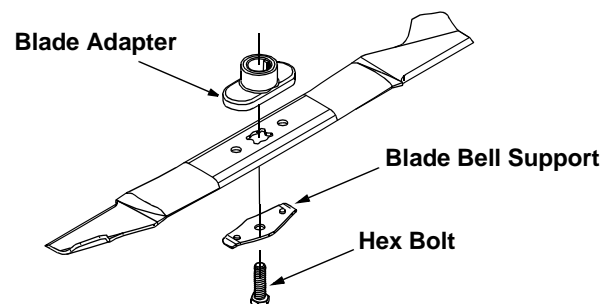

Figure 13
- Remove the bolt and blade bell support which hold the blade and adapter to the engine crankshaft. Refer to Figure 13.